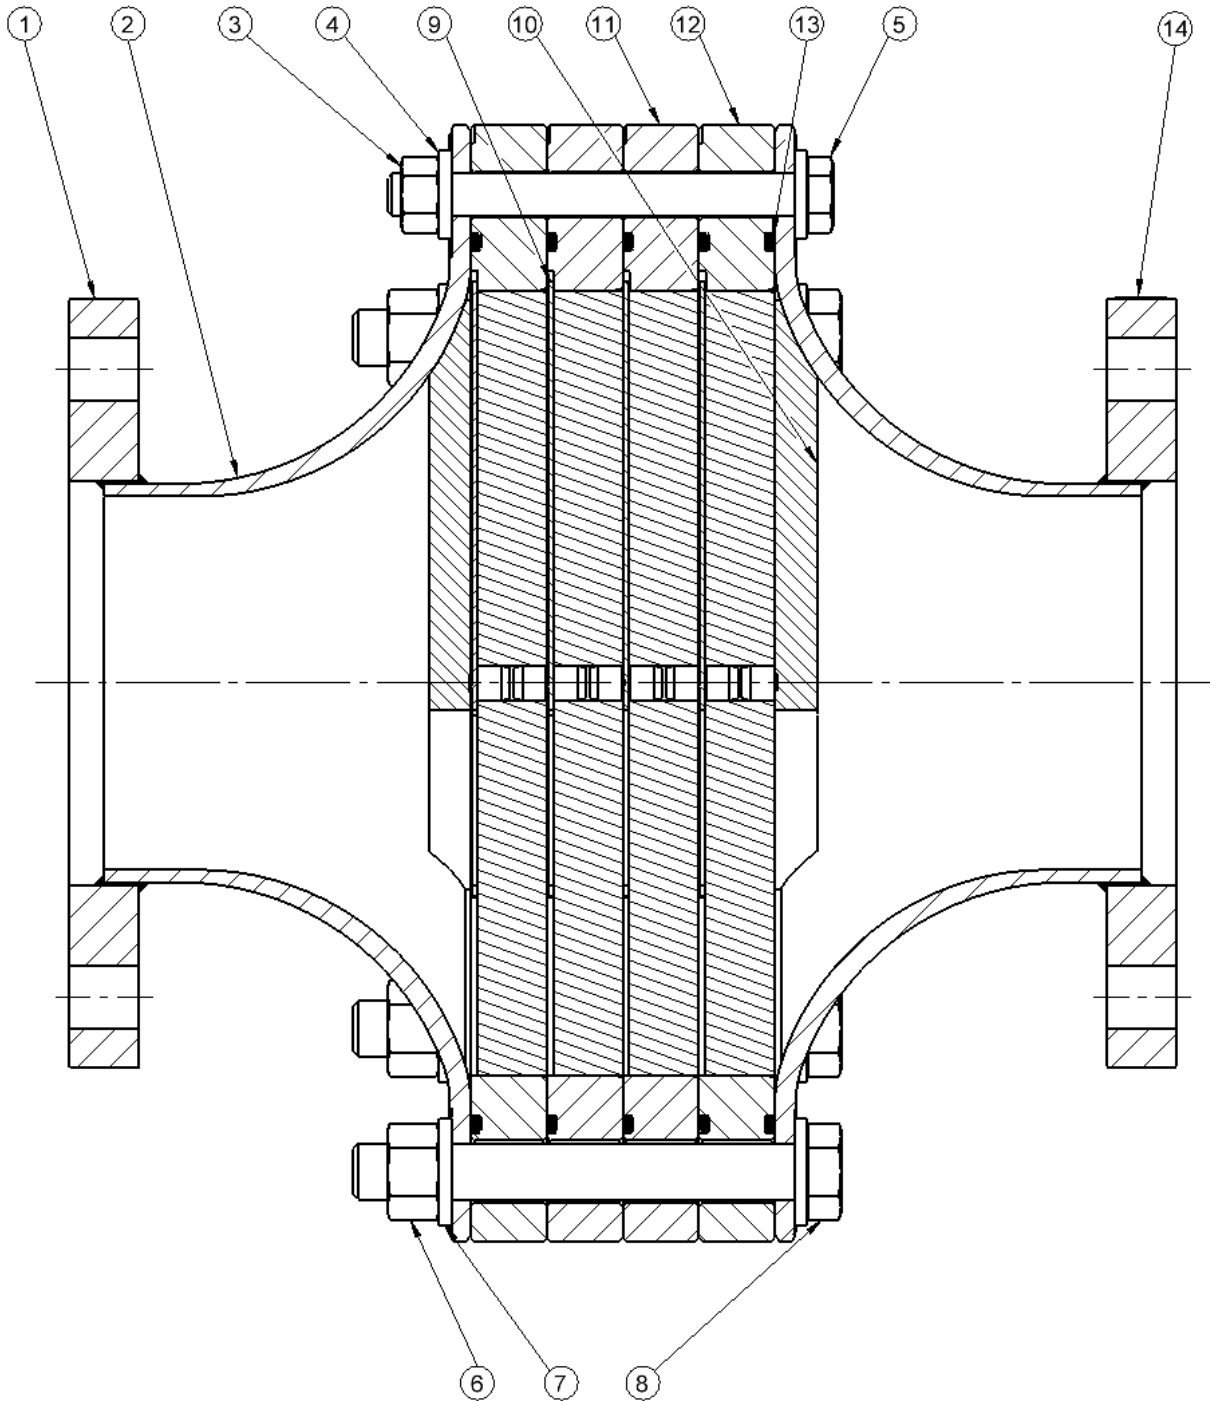

Figure 1
(See fig 1)
(see fig 1)
- Spare part no. (Please refer to **fig. 1** for items)